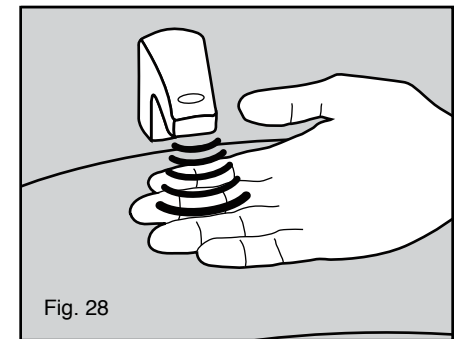

Fig. 28
3. Prime the pump by placing one hand under the soap discharge head to activate the motor. Repeat 4 to 5 times until a consistent shot of foam soap is discharged (see figure 28).